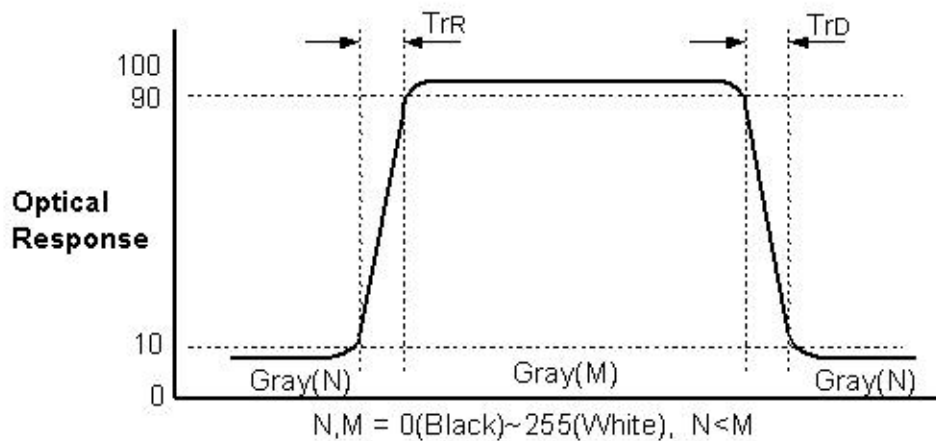

FIG.3 Response Time(G to G)
4. Response time is the time required for the display to transition from G(N) to G(M) (Rise Time,  $Tr_R$ ) and from G(M) to G(N) (Decay Time,  $Tr_D$ ). For additional information see the FIG. 3. (N<M)